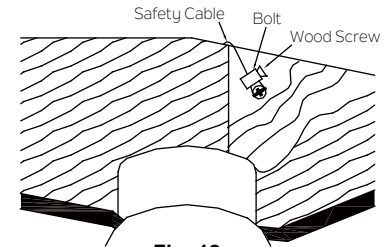

Fig. 12
Step 2. Insert the safety cable through the mounting plate and one of the holes in the outlet box into the ceiling. Adjust the length of the safety cable to reach the screw and washers by pulling the extra cable through the cable clamp until the overall length is correct, put the end of the cable back through the cable clamp, forming a loop at the end of the cable. Tighten the cable clamp securely. Now, put the loop in the end of the safety cable over the wood screw and under the washer. Tighten the wood screw securely. (Fig. 12)